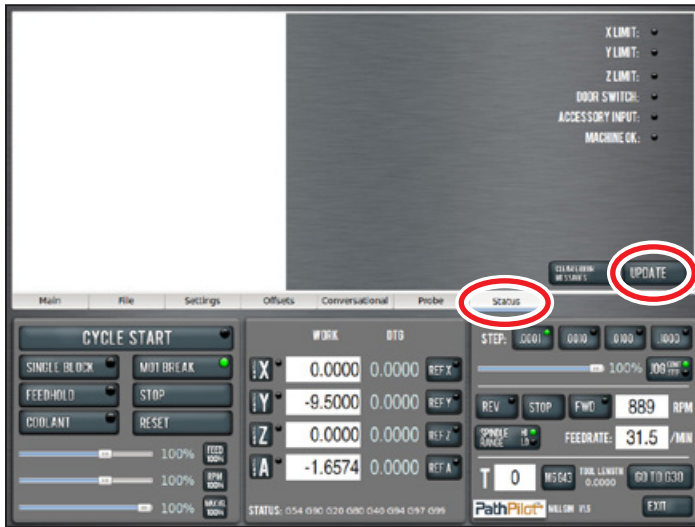

Figure 3
4. From the PathPilot interface, on the **Status** tab, click **Update** (see **Figure 3**).